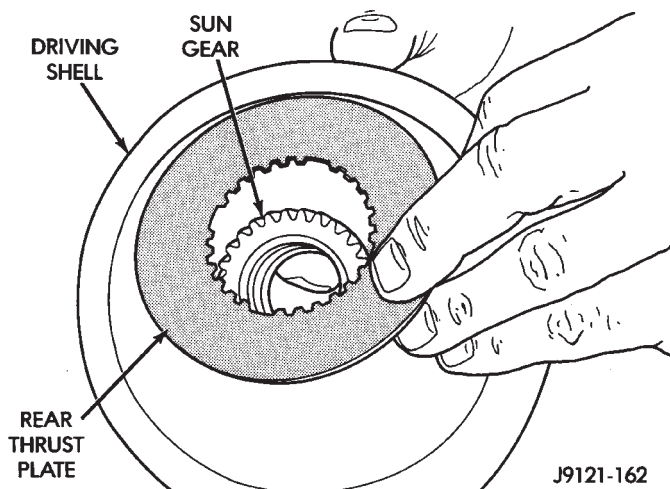

Fig. 171 Installing Driving Shell Rear Thrust Plate
(9) Hold sun gear in place and install thrust plate over sun gear at rear of driving shell (Fig. 171).